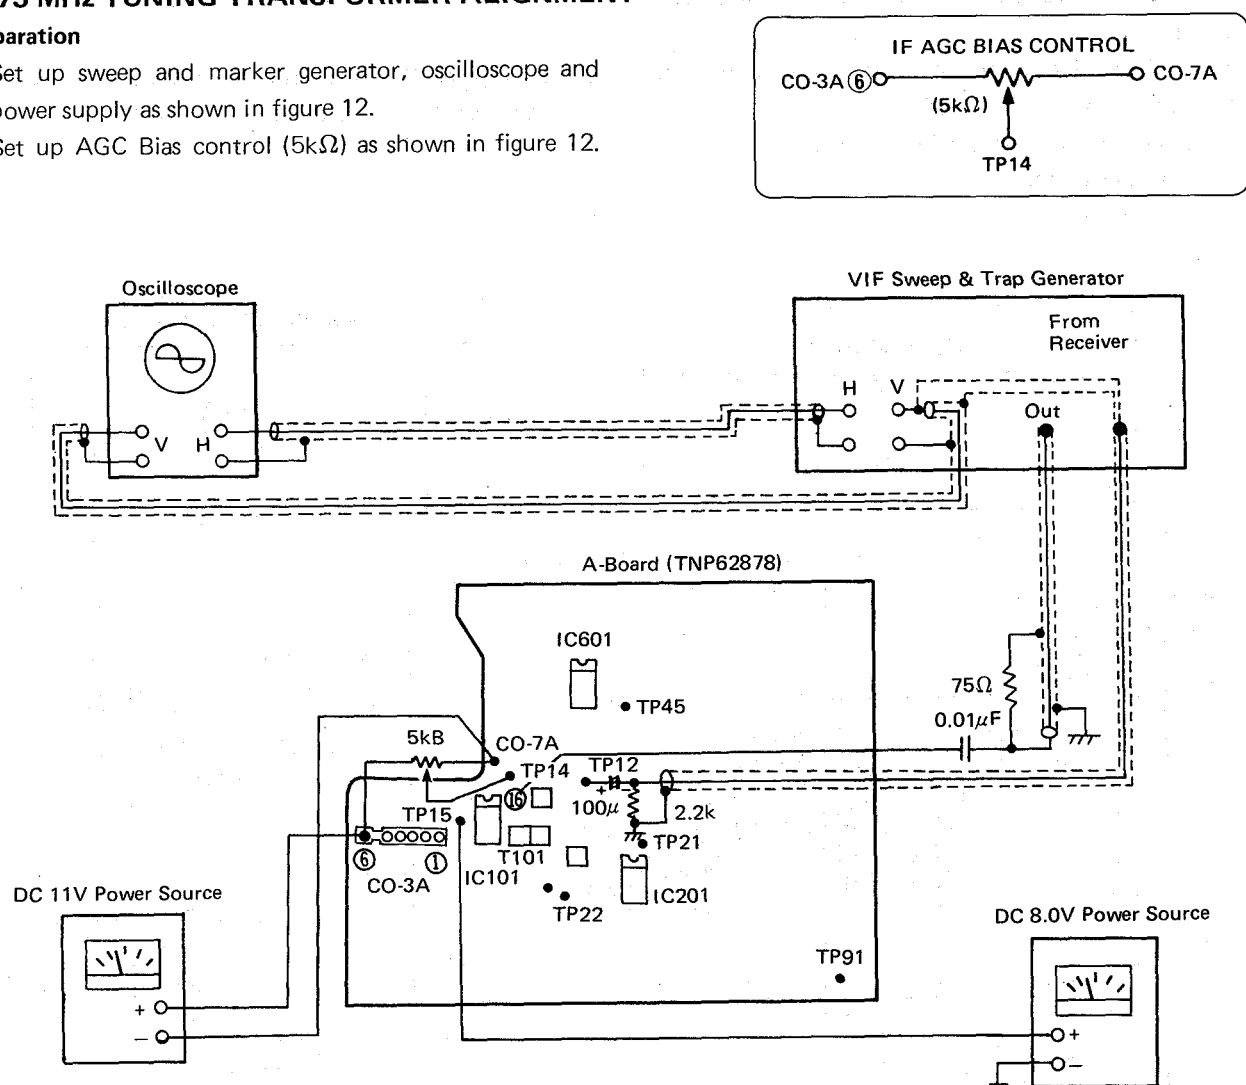

Figure 12
1. Set up sweep and marker generator, oscilloscope and power supply as shown in figure 12.
2. Set up AGC Bias control (5k Ω) as shown in figure 12.